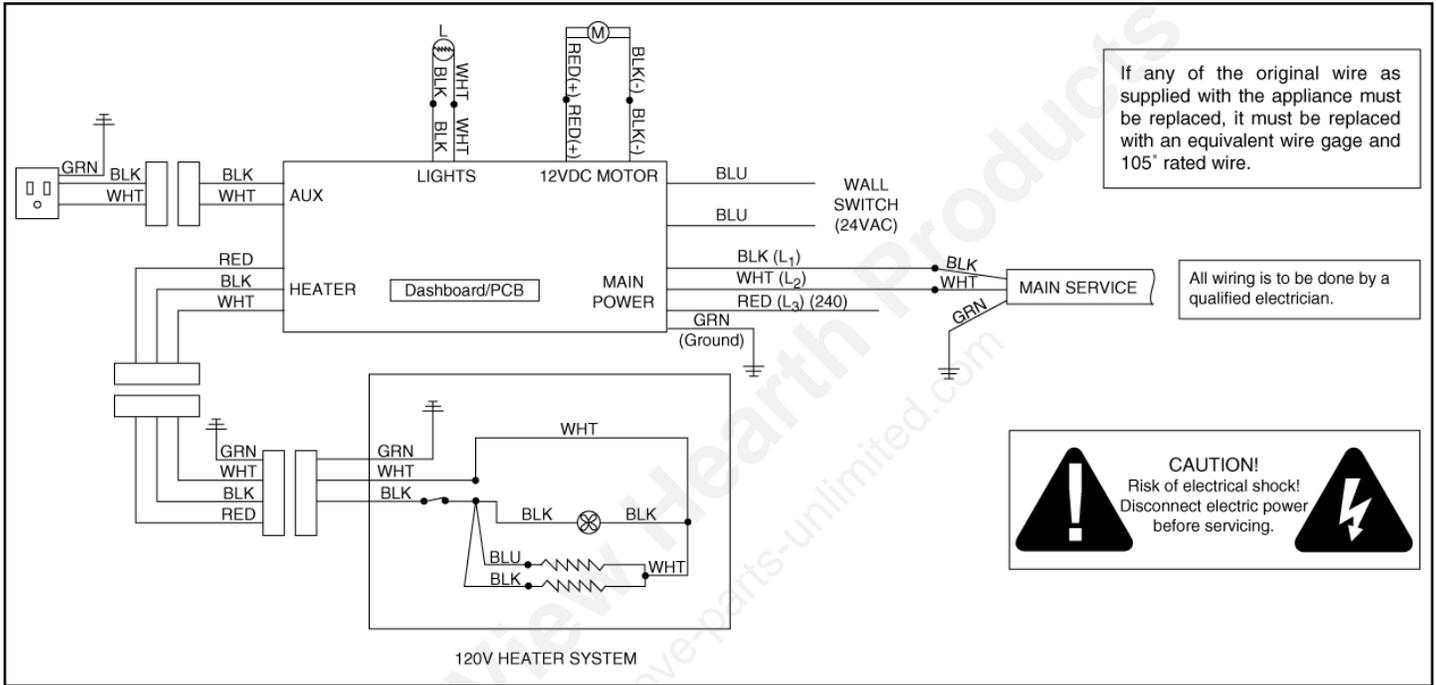

Figure 3 - 110V/120V Wiring Diagram
- 5) Connect black (L₁) and white (L₂) wires of the appliance to the black and white wires from the service. Connect green (ground) wire from appliance to the ground of the service. See Figure 3.